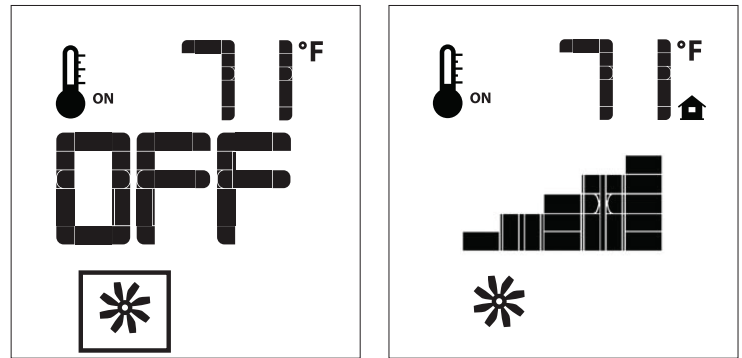

Figure 13: Contrôle du ventilateur
The Q3LI comes with a convection fan that can be controlled with the Transmitter. The fan speed can be adjusted through six (6) speeds. To control the fan press the MODE key (Figure 5) to index to the fan control icon (Figure 13). Use the UP/DOWN arrow keys to turn on, off, or adjust the fan speed (Figure 13). A single beep from the IFC will confirm the command has been received